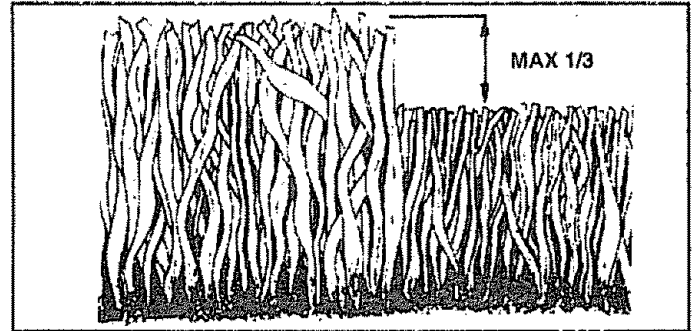

FIG. 11
- For best results, adjust the mower cutting height so that the mower cuts off only the top one-third of the grass blades (See Fig. 11 ). For extremely heavy mulching, reduce your width of cut on each pass and mow slowly.